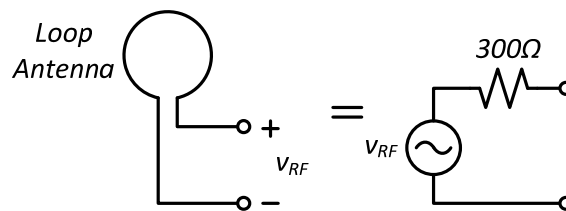

Figure 6. Thevenin equivalent circuit for the loop antenna.
- L3.5** Build a loop antenna, tuned to 850MHz, using hook-up wire available in the lab. The antenna is a simple circular loop of wire, where the circumference of the loop should equal one wavelength. Calculate the wavelength of an 850MHz wave travelling in freespace at the speed of light. When operating at its resonant frequency, this antenna can be modeled by a voltage source with a source impedance of 300Ω as shown in Figure 6.